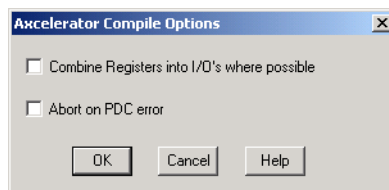
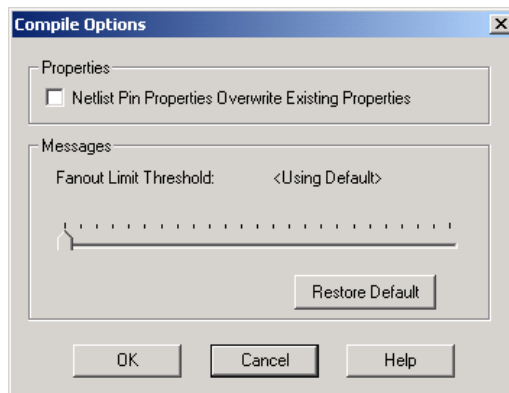

Figure 7-18. Compile Options Dialog Box, Accelerator Family
Figure 7-19. Compile Options Dialog Box, SX Family
1. **From the Options menu, click *Compile*.** The compile option dialog box opens, as shown in Figure 7-18 and as shown in Figure 7-19. Options available from this dialog box are dependent upon your family.